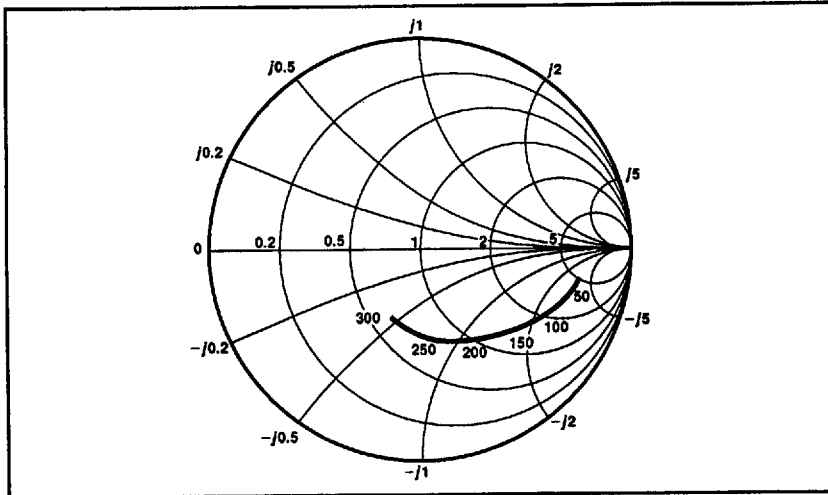

Fig. 5 Typical input impedance. Test conditions: Supply Voltage = -5.2V, Ambient Temperature = 25°C. Frequencies in MHz, impedances normalised to 50Ω.
6. The input impedance of the SP8741 varies as a function of frequency, see Fig. 5.